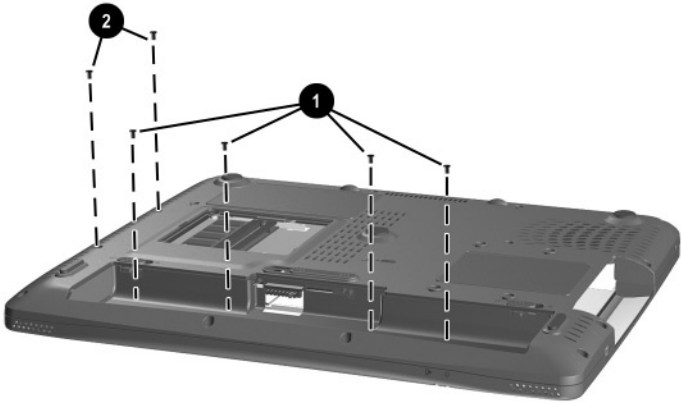

Figure 5-23. Removing the Top Cover Screws
4. Remove the following PM2.5 × 4.0 screws (Figure 5-23):
- ❑ Four screws in the battery bay ①
- ❑ Two screws in the optical drive bay ②